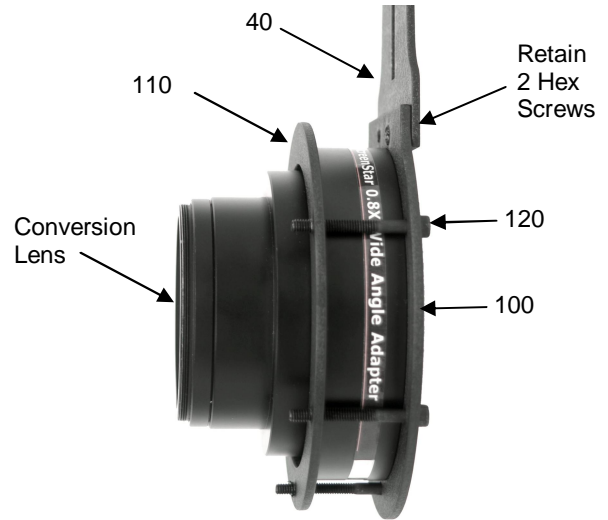

Figure 13. Assemble Ring Supports with Lens
- Using the 9/32” hex wrench (130) and five socket head cap screws (120), assemble the outer ring support (100) and inner ring support (110) with the lens (not shown) as shown in Figure 13. Tighten the screws.